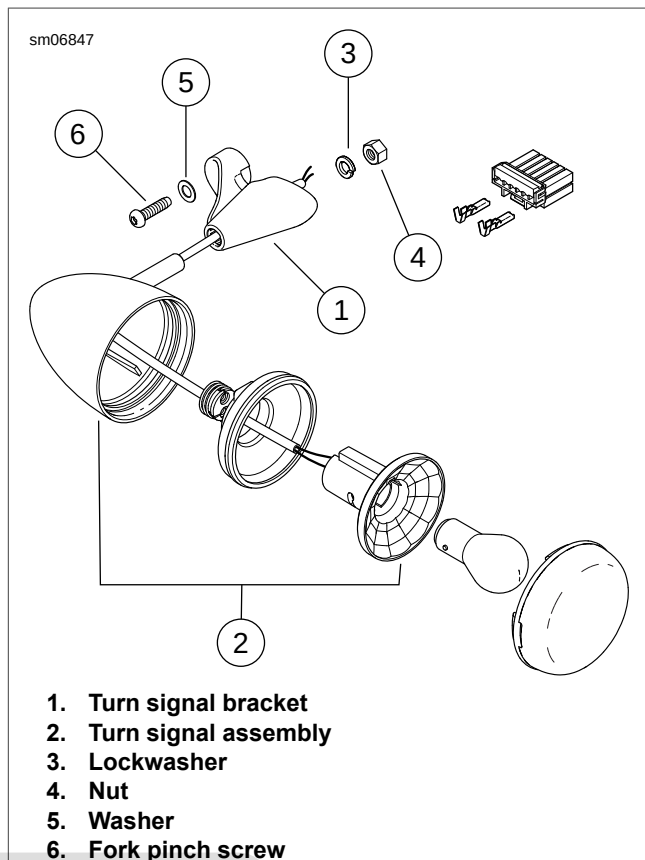

Figure 6-67. Front Turn Signal Components: XL 1200X
1. See Figure 6-67. Thread the turn signal leads through the bracket (1).
2. Install the turn signal (2) with the lockwasher (3) and nut (4) and tighten to 12-16 ft-lbs (16.3-21.7 Nm).
4. Install and tighten the turn signal bracket fastener (6) and washer (5) (front fork bracket pinch screw) to 30-35 ft-lbs (40.7-47.5 Nm).